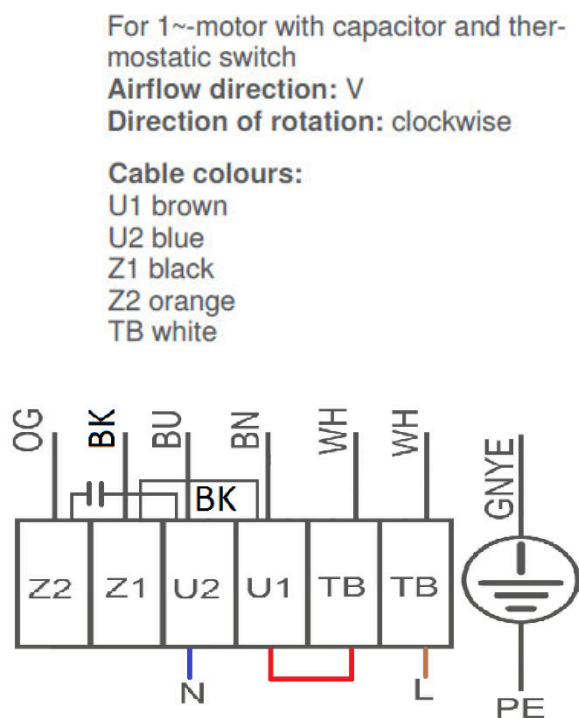

Figure 10 Wiring diagram ZN045
Connecting the fan in this way increases its life span. Connect the fan as shown in Figure 10 and 14. The thermostatic switch is connected in series with the phase. The red line in Figure 10-14 is the connection between TB and U1.
**Note: In this scheme, the thermostatic switch is not connected yet (see Figure 10 and 14) !**